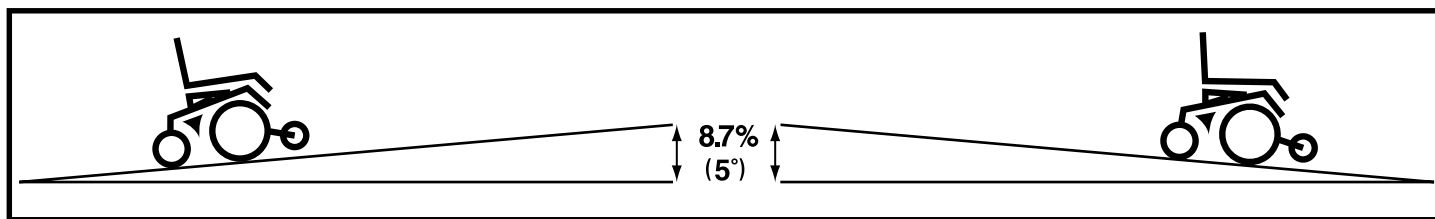

Figure 1. Maximum Safe Slope (Ascending and Descending)
**WARNING! Even though your power chair is capable of climbing slopes greater than those illustrated in figure 1, do not, under any circumstances, exceed the incline guidelines or any other specifications presented in this manual. Doing so could cause instability in your power chair, resulting in personal injury and/or damage to your power chair.**
Most handicap public access ramps are required to have a maximum slope of 8.7% (5°). Therefore, Pride recommends that the maximum slope of an incline you attempt to safely ascend or descend on your power chair does not exceed 8.7% (5°). See figure 1.